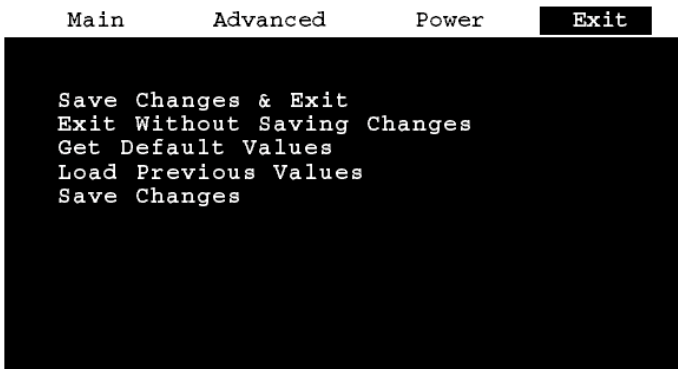

Figure 4-4: BIOS Exit Menu Screen
8. Pressing the Right Arrow key <▶> three times from the Main Menu screen displays the Exit Menu (see Figure 4-4). The Exit Menu can also be accessed at anytime by pressing the ESCape keys (<FN> + <E>).